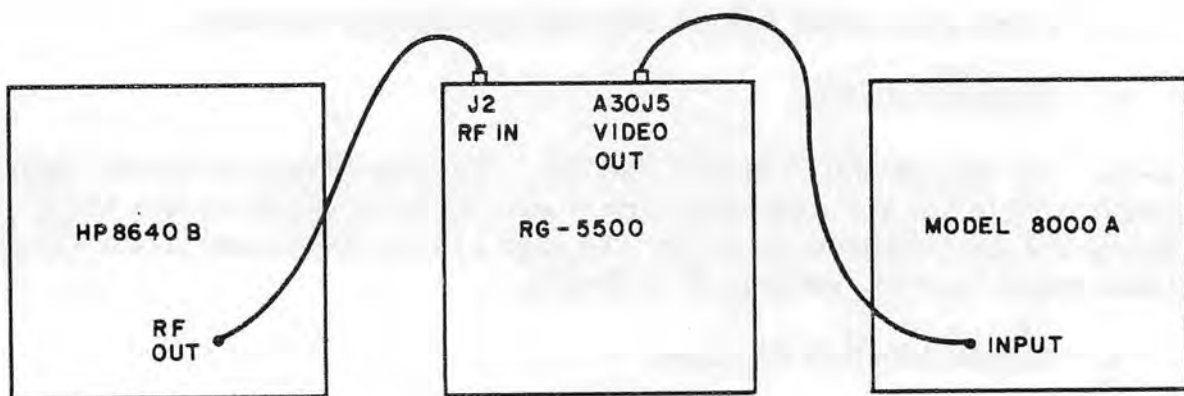

Figure 5-8. A23A6-A9 21.4 MHz FM Limiter/Discriminator Gain Adjust Test Setup
- (1) Apply ac power to receiver.
- (2) Connect test equipment as shown on figure 5-8.
- (3) Push FM AV mode selector and BANDWIDTH option "A" on front panel.
- (4) Tune receiver to any frequency between 20 and 510 MHz.
- (5) Set signal generator frequency to same frequency chosen in (4) above, FM modulated with 30% BW deviation at a 1 kHz rate.
- (6) Set signal generator output level to 10 dB above rated sensitivity for bandwidth under test to ensure limiting (table 5-1).
- (7) Adjust FM GAIN R9 or R10 as applicable for a 1 volt rms minimum as measured with rms voltmeter.
- (8) Repeat steps (4) through (7) for options "B", "C", and "D".
- (9) Disconnect all test equipment.